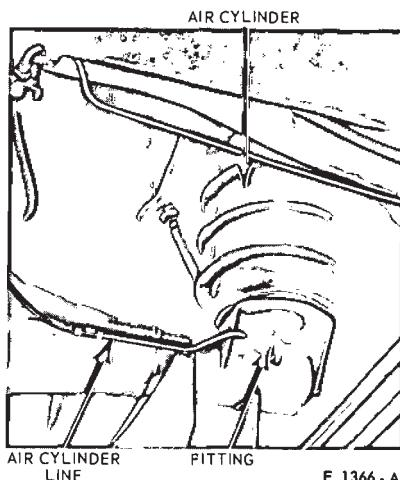

FIG. 4—Air Cylinder Installation
2. Disconnect the air cylinder line from the fitting on the lower end of the cylinder (Fig. 4).